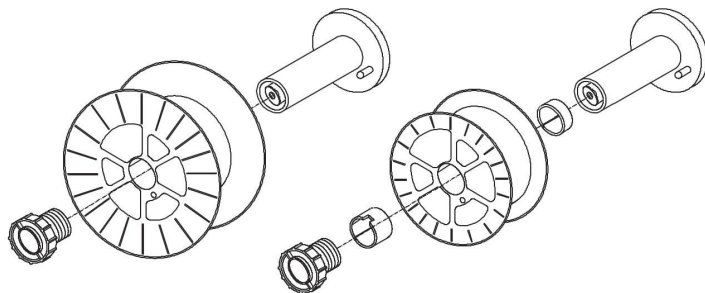

Figure 16
- If necessary for the type of wire spool being loaded, install also the spacers as shown on the Figure 16.